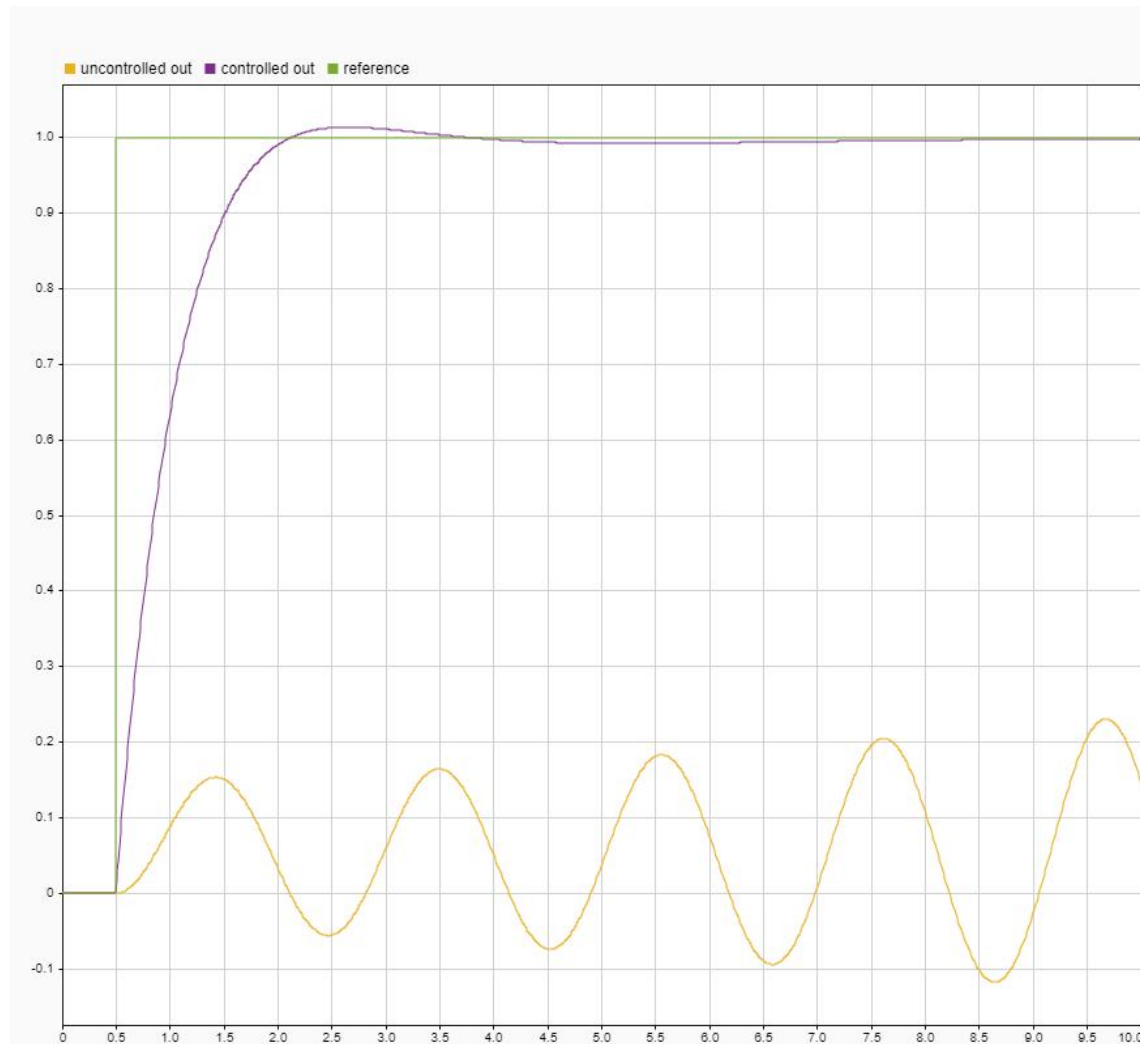

Figure 12: The signals' output
- Inspect signals using data analyser. The comparison is shown at figure 12. So we can see, that tuned PID controller really does its job well.